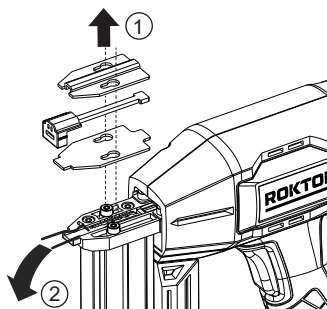

Fig. 11
- Remove the firing pin retaining plate. See Fig. 11